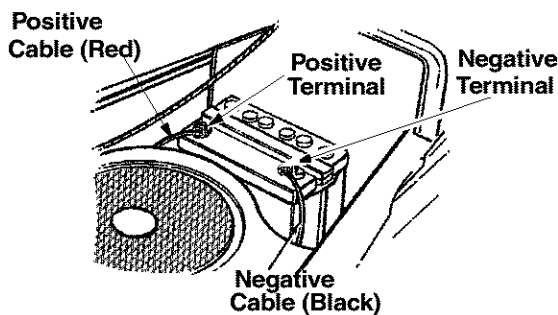

Figure 16
- Remove the hex bolt and nut from the negative (black) cable. Attach negative cable to the negative terminal with this bolt and nut. See Figure 16.
- Attach the positive cable (heavy red wire) to the positive battery terminal (+) with hex bolt and hex nut. See Figure 16. Slide the rubber boot over the positive terminal.